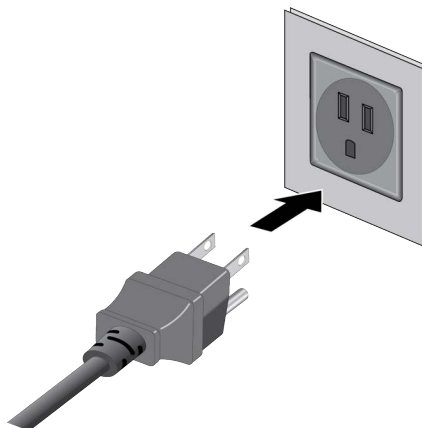

Figure 63. Connecting the Power Cord to an AC Power Source
4. Connect the power cord to an appropriate AC power source. Refer to Figure 63.